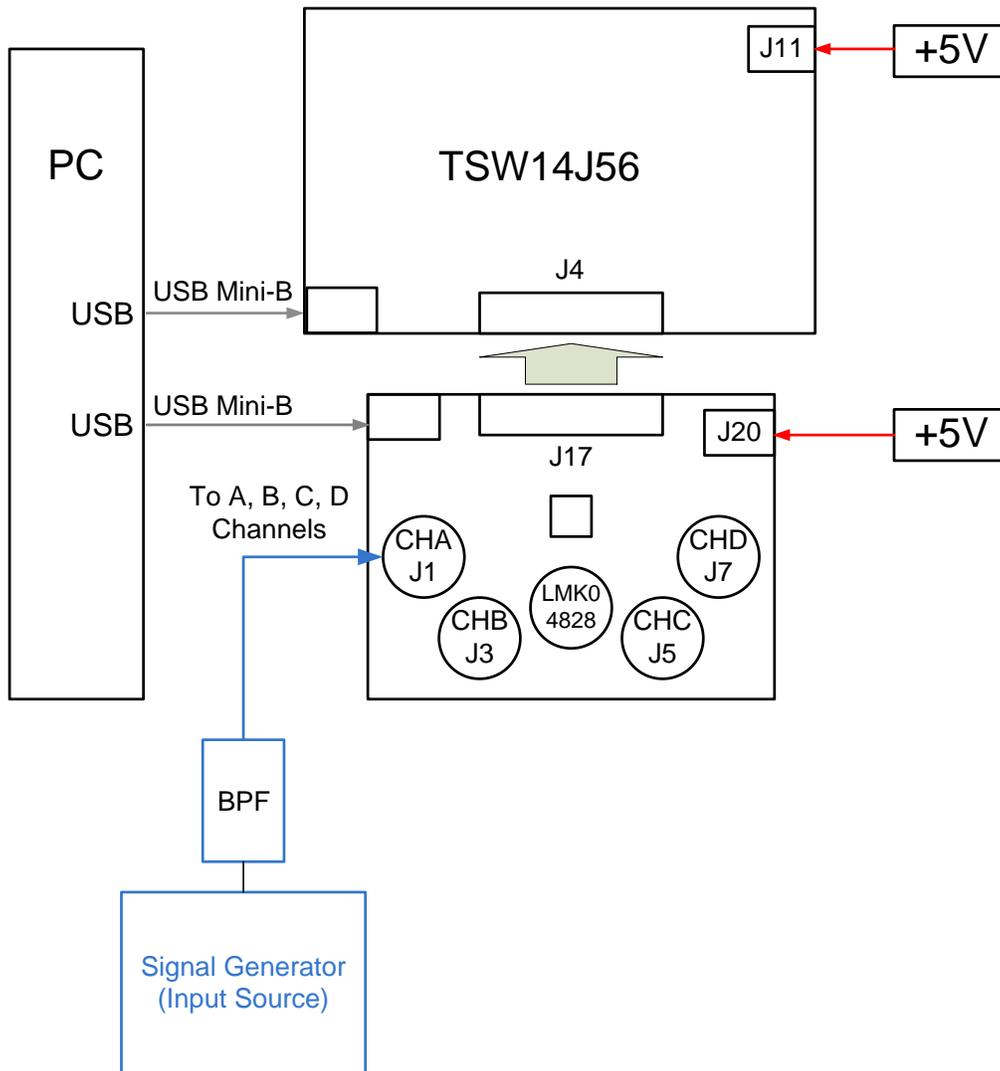
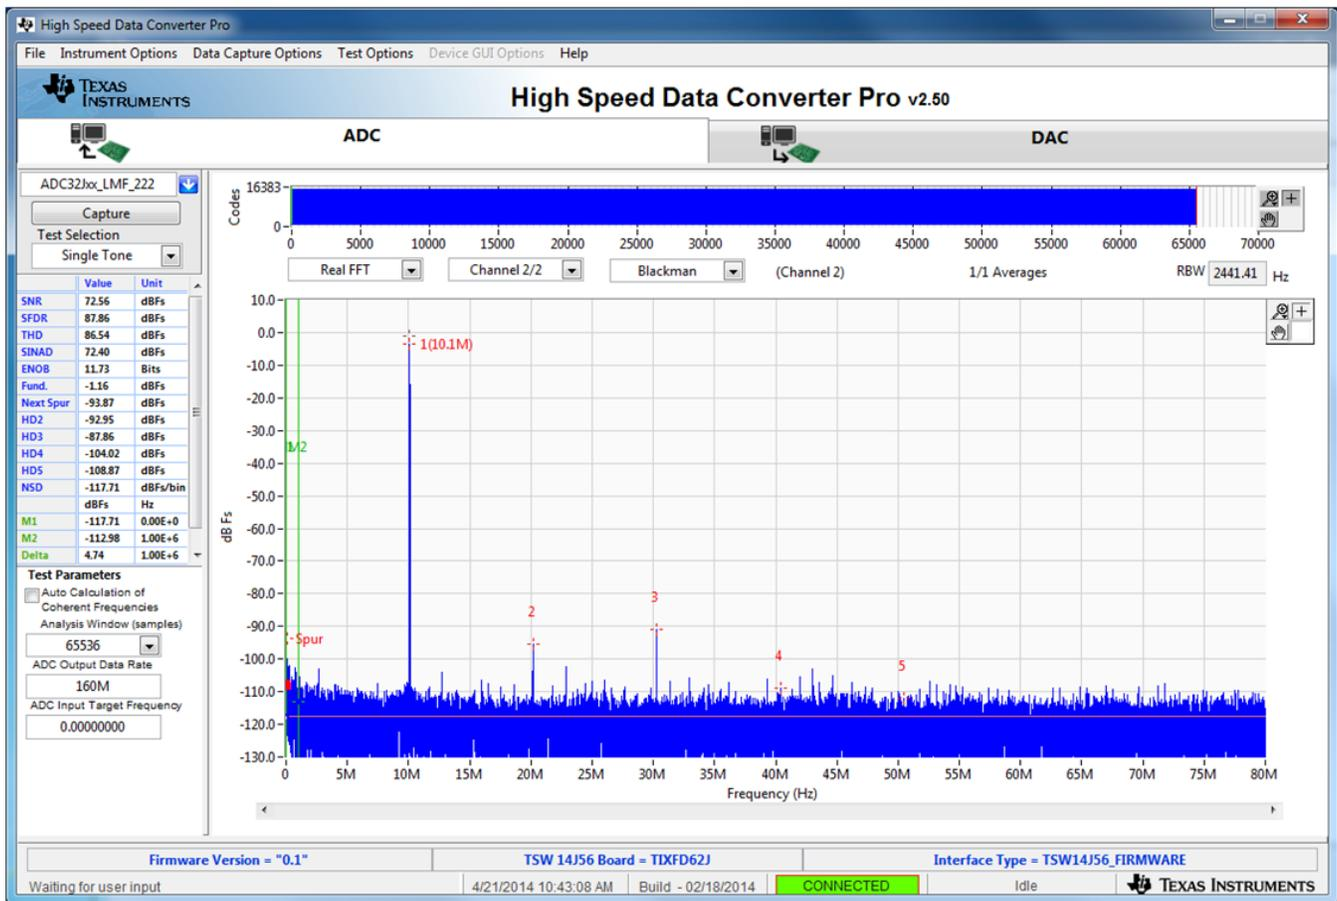

Figure 18. ADC32Jxx/ADC34Jxx and TSW14J56 Test Setup Block Diagram
Figure 20. ADC32Jxx Operating in 14-Bit Mode at 160 MSPS With a 10-MHz Input Signal
The test set-up for evaluation of the ADC32J/34Jxx EVM with the TSW14J56 or TSW14J50 Capture Card is shown in Figure 18. As seen in this figure, the evaluation setup involves a clock from a high quality on board clock chip LMK04828 and a sine wave for the analog input from a high-quality signal generator. High order, narrow bandpass filters are usually required to remove phase noise and harmonic content from the input sine waves. Since the on board clock and input sinewave are not coherent then the resulting FFT will need to have a windowing function such as Blackman-Harris/Hamming/Hanning applied to the data.
- Select the number of sample points (and resulting number of FFT bins) to be used. The example shown in Figure 20 has 65536 samples.
- Enter the ADC32J/34Jxx sampling rate. The example shown in Figure 18 has the sample rate set at 160 MSPS.
- Enter the input frequency desired. The example shown in Figure 18Figure 20 has the filtered input frequency set at 10 MHz and around 10 dBm. Adjust to achieve  $-1$  dBFs on the HSDC Pro FFT plot.
- Observe an FFT result similar to that shown in Figure 18.